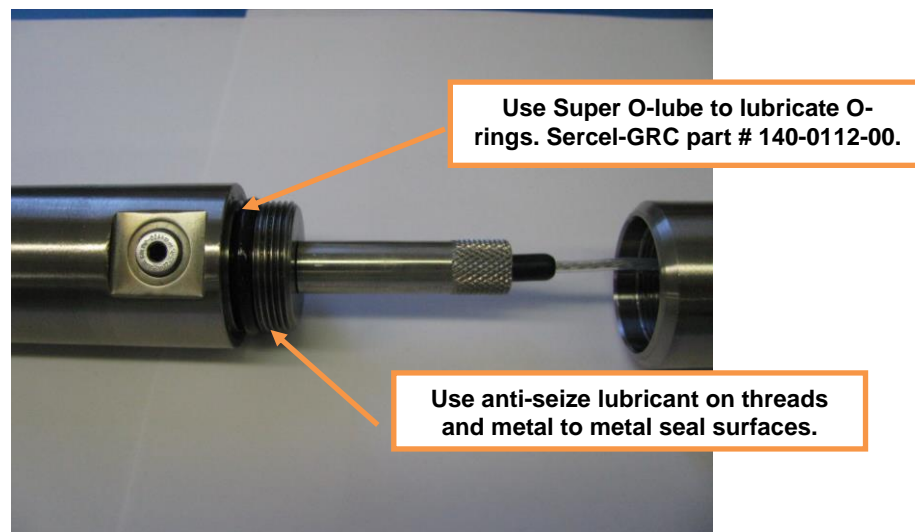

Figure 17. Installing the seal boot retainer
13. Before threading the first cablehead onto the gauge, the metal-to-metal seal section of the cablehead and gauge should be absolutely clean. **Apply a small amount of anti-seize lubricant to the threads and metal to metal seal surfaces. Slightly grease O-rings with Super O-lube.** Tighten to torque specified below or marked on the housing. Figure 17. Be sure to grip wrench flats on C-5000/5500 when torquing cableheads.